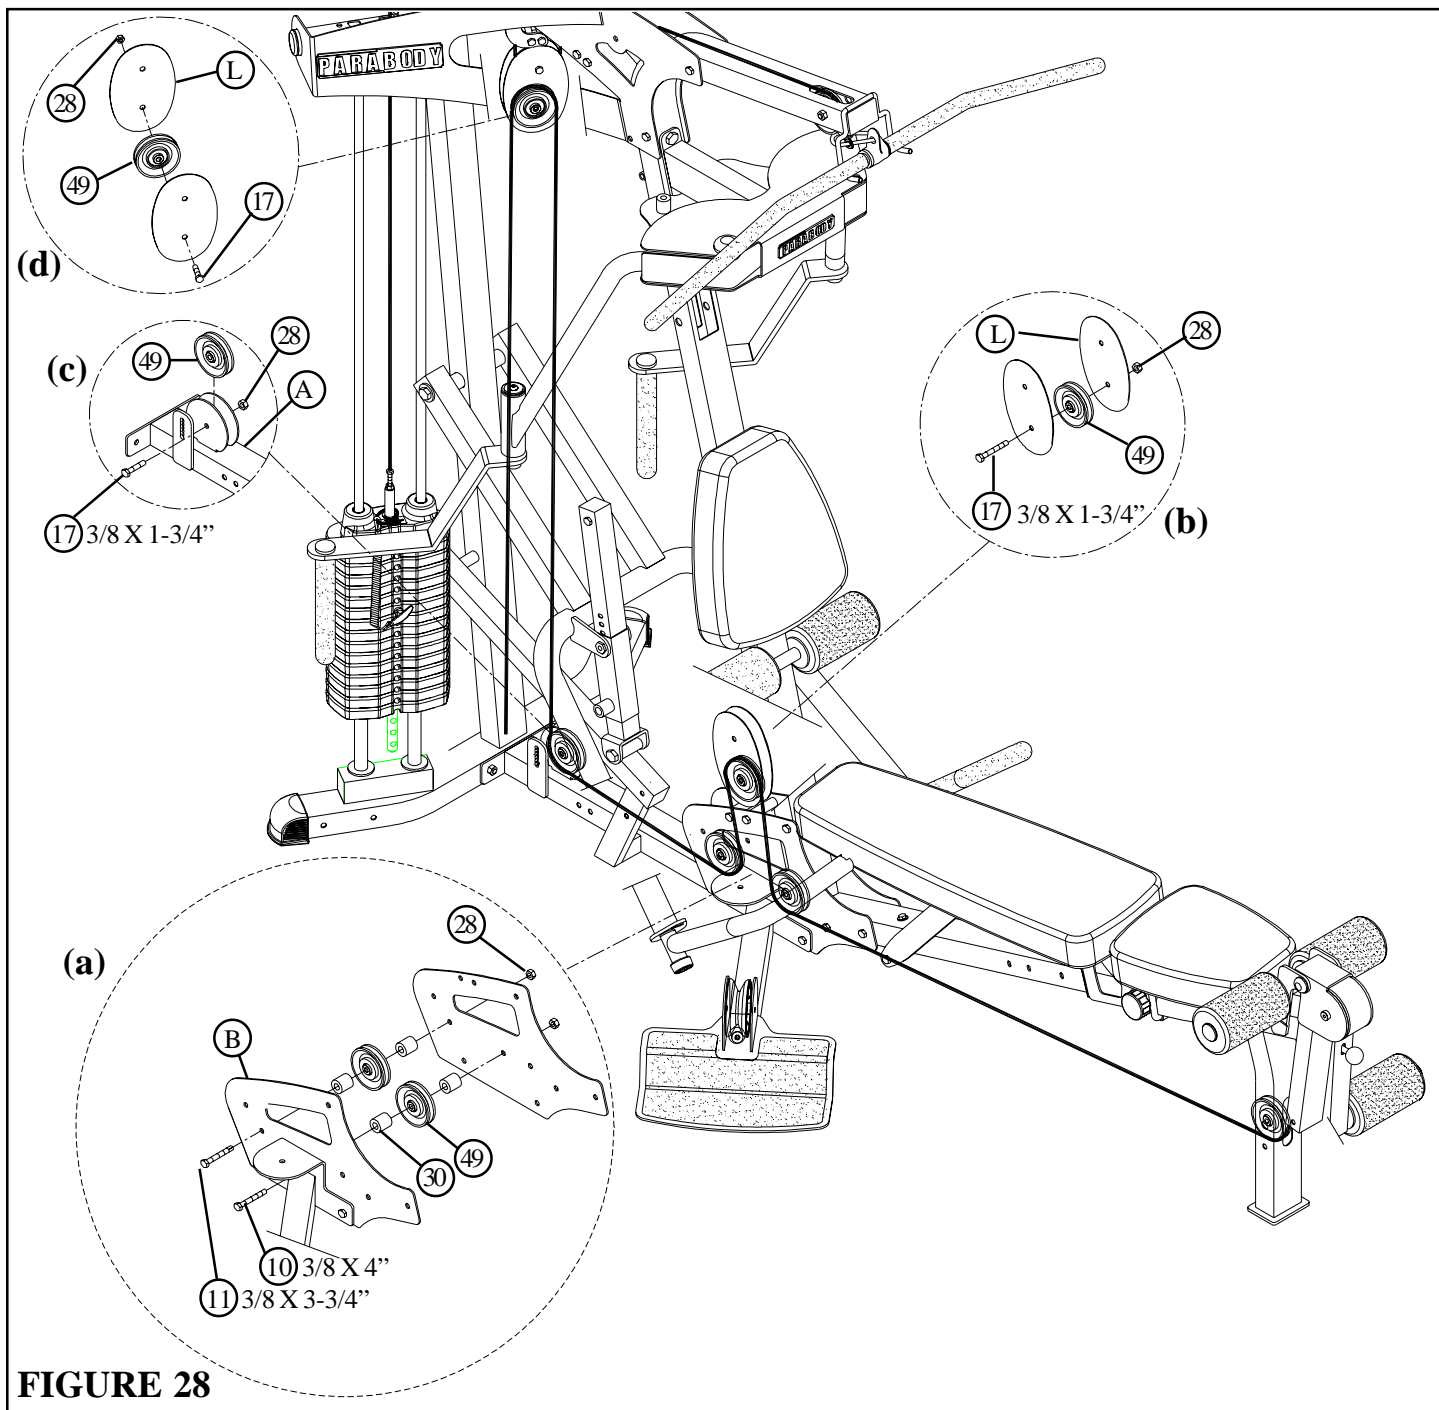

FIGURE 28
- Assemble one 3-1/2" PULLEY (49) to the BASE PLATES (B) using one 3/8 X 4" BOLT (10), one 3/8 X 15/16" SPACER (30) and one 3/8" LOCK NUT (28). See FIGURE 28(a) (**Note: Loop the LOW CABLE (AW) around the PULLEY prior to assembling the PULLEY to the BASE PLATES.**)
- Route the LOW CABLE (AW) around one 3-1/2" PULLEY (49) and assemble the 3-1/2" PULLEY (49) to the PULLEY PLATES (L) using one 3/8 X 1-3/4" BOLT (17) and one 3/8" LOCK NUT (28). See FIGURE 28(b)
- Assemble one 3-1/2" PULLEY (49) to the BASE PLATES (B) using one 3/8 X 3-3/4" BOLT (11), one 3/8 X 15/16" SPACER (30) and one 3/8" LOCK NUT (28). See FIGURE 28(a) (**Note: Loop the LOW CABLE (AW) around the PULLEY prior to assembling the PULLEY to the BASE PLATES.**)
- Route the LOW CABLE (AW) around one 3-1/2" PULLEY (49) and assemble the 3-1/2" PULLEY (49) to the bracket on the BASE (A) using one 3/8 X 1-3/4" BOLT (17) and one 3/8" LOCK NUT (28). See FIGURE 28(c)
- Route the LOW CABLE (AW) around one 3-1/2" PULLEY (49) and assemble the 3-1/2" PULLEY (49) to the PULLEY PLATES (L) using one 3/8 X 1-3/4" BOLT (17) and one 3/8" LOCK NUT (28). See FIGURE 28(d)